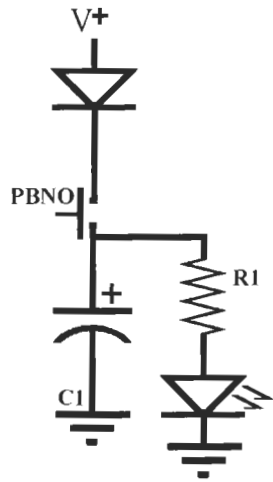
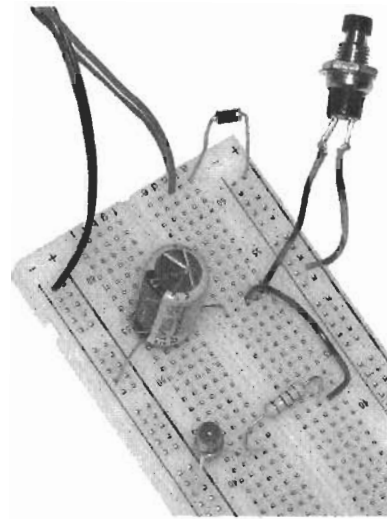

Figure L8-20
Figure L8-21
Build the circuit shown in Figure L8-20 (see also Table L8-1). Note the similarity between the schematic in Figure L8-20 and the photograph in Figure L8-21.
**Table L8-1** Parts list for circuit in Figure L8-20